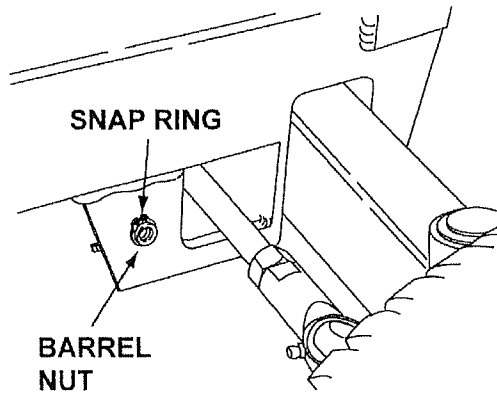

FIGURE 1
1. Install barrel nut in both sides of chassis. (See figure 1)